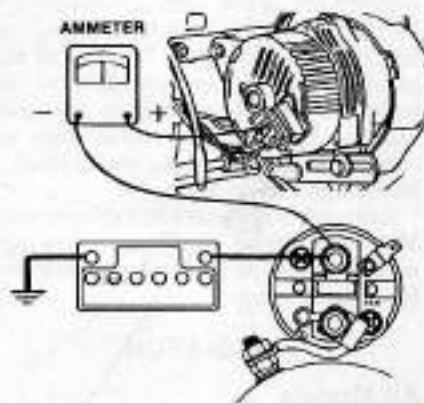

Fig. 98—View showing proper hook-up of ammeter for performing amperage output test. Refer to paragraph 185.
**185. ALTERNATOR AMPERAGE OUTPUT TEST.** Disconnect brown wires from alternator and connect ammeter in alternator output circuit as shown in Fig. 98. Start and run engine at full rated speed (2200 rpm on 1190, 1290 and 1390 models and 2300 rpm on 1490 and 1690 models). Turn on head lights and flood lights (if so equipped) and check ammeter reading.